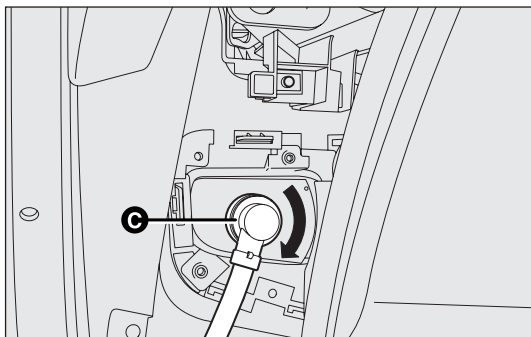

fig. 170
- ❑ remove the bulb holder cover C-fig. 170 by turning it anti-clockwise;
- ❑ refit the bulb holder cover C-fig. 170 by turning it clockwise and locking it properly;